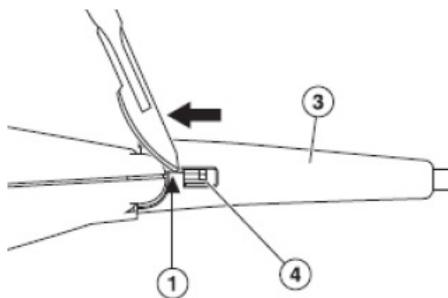
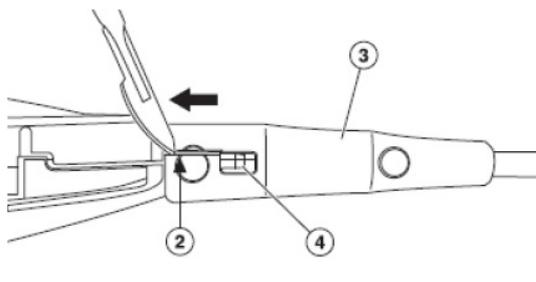

Figure 1. Strain Relief cut location (top of device)
Figure 2. Strain Relief cut location (bottom of device)
- 2. Separate the gray strain relief from the handle using an 11-blade scalpel to cut the gray strain relief on the top and bottom of the handle. Cut from the white tabs toward the handle. See Figure 1 and Figure 2.*
- 3. Use a hemostat to slide the strain relief down the catheter and away from the handle. See Figure 1 and Figure 2.*